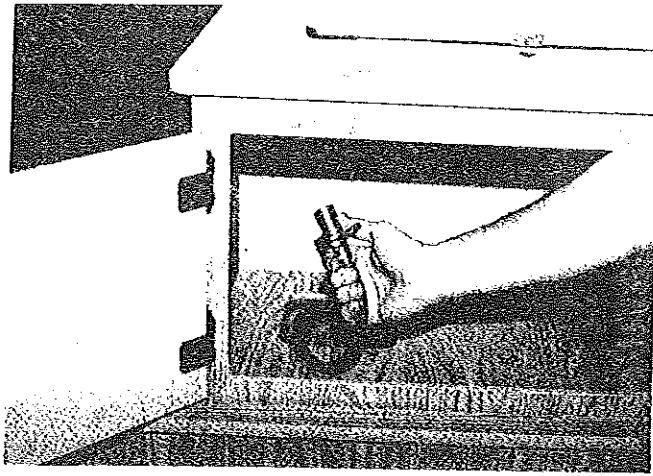

FIGURE 27
31. Locate gas line and route into stove cabinet through opening in hutch cabinet top. See Figure 27.